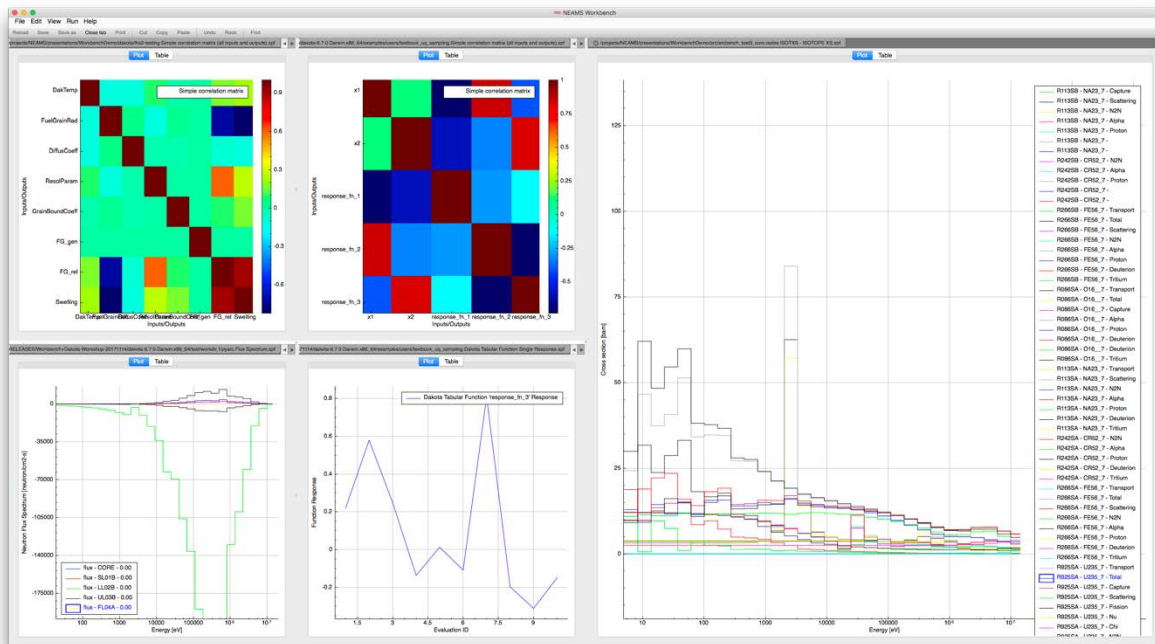

Fig. 9. Extendable Workbench processor plotting.
The Workbench processor files are composed of three components: (1) processor hierarchy, (2) processor filtering, and (3) the processor engine. Because there could be numerous processor files associated with different types of analysis, an optional hierarchy feature is available to allow the user to dictate the organization of the processors in the Workbench user interface. This hierarchy allows many processors to be binned into fewer logical groups. In addition to processor organization via hierarchy, the extensions and filter_pattern features allow the user to limit the files for which the processor is enabled according to the given file extensions and/or the specified filter_pattern. The ability to limit when the processor is enabled ensures that the NEAMS Workbench is streamlined for the data under inspection. The processor consists of plot series information and data extraction logic. The data extraction logic uses any command line utility to extract data into spreadsheet format. The *Grep* and *Awk* utilities are most commonly used and are available across all supported platforms. The data extraction logic can create multiple series, one per spreadsheet. The plot series can reference the data using a familiar, Excel-like cell-reference mechanism which allows for capturing the keys, values, and uncertainties (low, high). Line style, axis labels, and scale can all be specified. In addition to 2D line and scatter graphs, bar charts and color map plotting are also available. Figure 9 depicts application output plotting enabled by integrated Workbench processors.